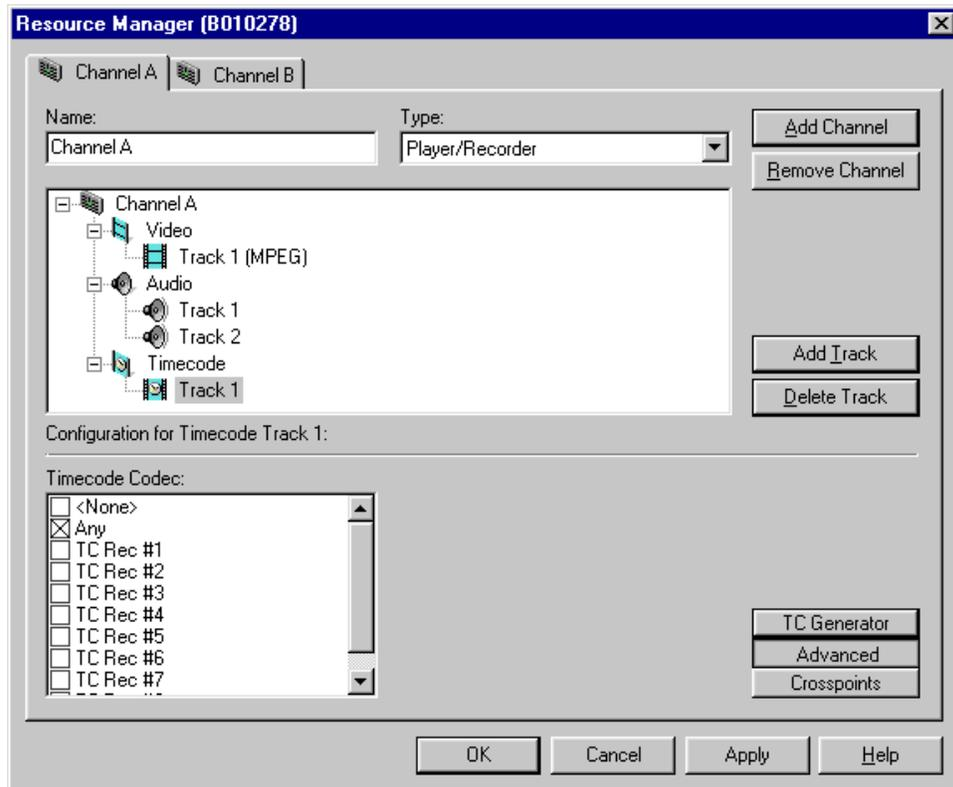

Figure 160. Timecode Codec check boxes
1. With a timecode Track selected in the configuration tree, click the Advanced button. The Timecode Codec check boxes appear (see Figure 160).